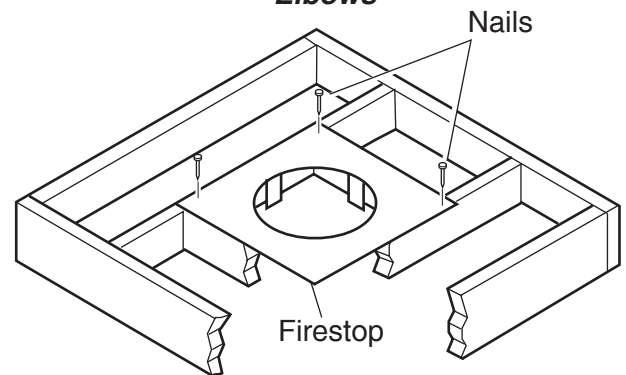
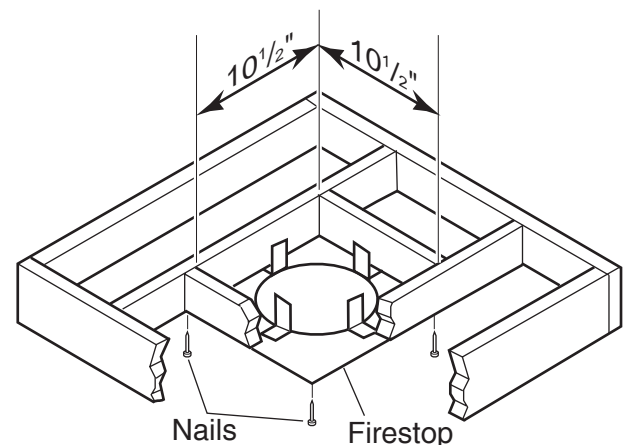

Figure 34 - If area above is a room, install firestop above framed hole as shown
Figure 35 - If area above is not a room, install firestop below framed hole as shown
1. Cut a $10\frac{1}{2}$ " (267mm) square hole in the ceiling using the locating hole as a center point. The opening should be framed to $10\frac{1}{2}$ "x $10\frac{1}{2}$ " (267mm x 267mm) inside dimensions as shown in *Figure 34* using framing lumber the same size as the ceiling joist. If the area above the ceiling is an insulated ceiling or a room, nail firestop from the top side. This prevents loose insulation from falling into the required clearance space. See *Figure 34*. Otherwise, install firestop below the framed hole. The firestop should be installed with no less than three nails per side. See *Figure 35*.